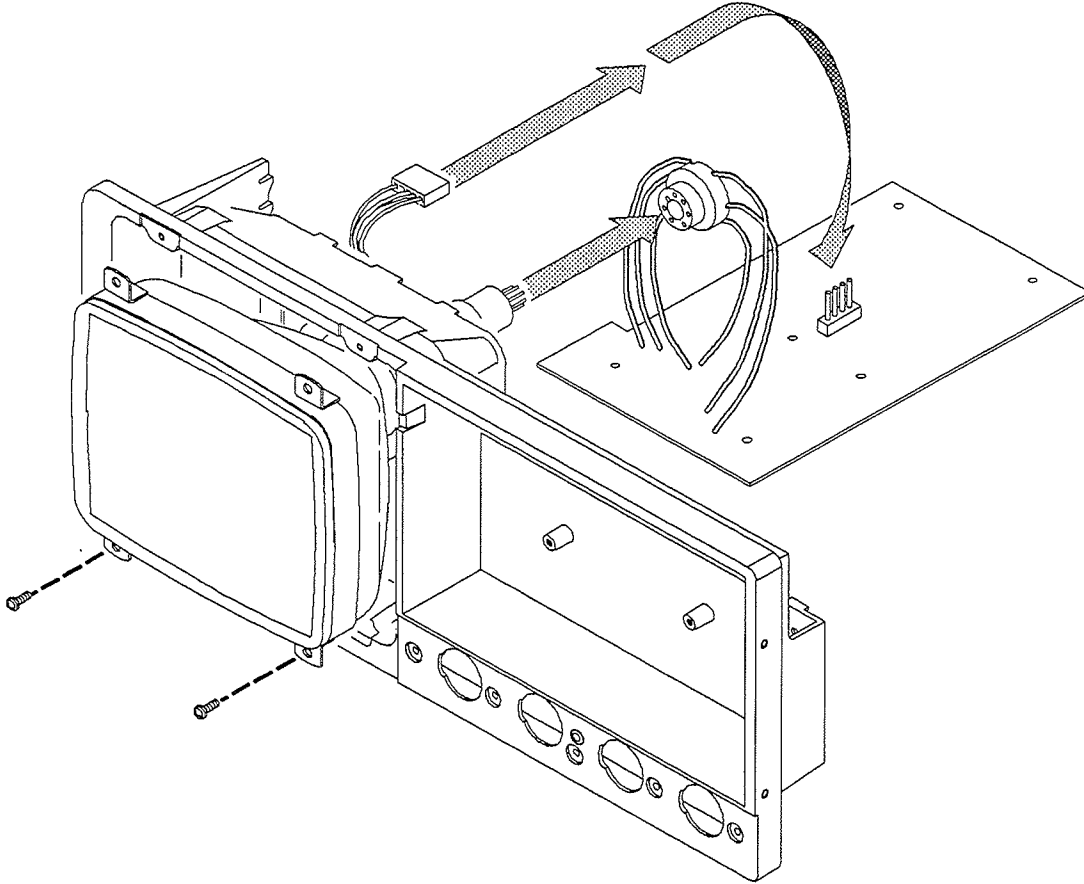

Figure 6-18: Display Assembly Removal
- a. Take the precautions outline in the warning above. Reference Figure 6-18 while doing the following substeps.